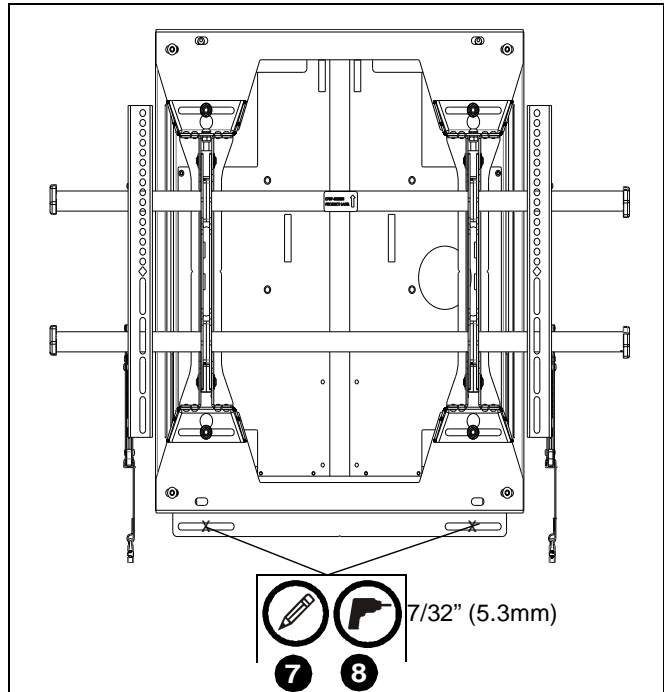

Figure 3
7. Mark hole locations for lower two mounting holes. (See Figure 3)
8. Drill two 7/32" holes at marked hole locations. (See Figure 3)
8. Drill two 3/8" holes at marked hole locations. (See Figure 3)